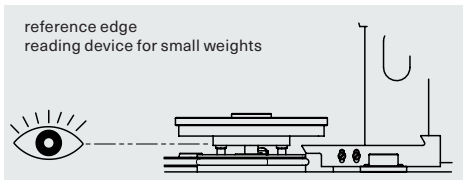

Fig. 3a: reading device
- Readjust the pressure via star handle of the spindle until the piston is in measuring position (⇒ Figure 3a or 3b).